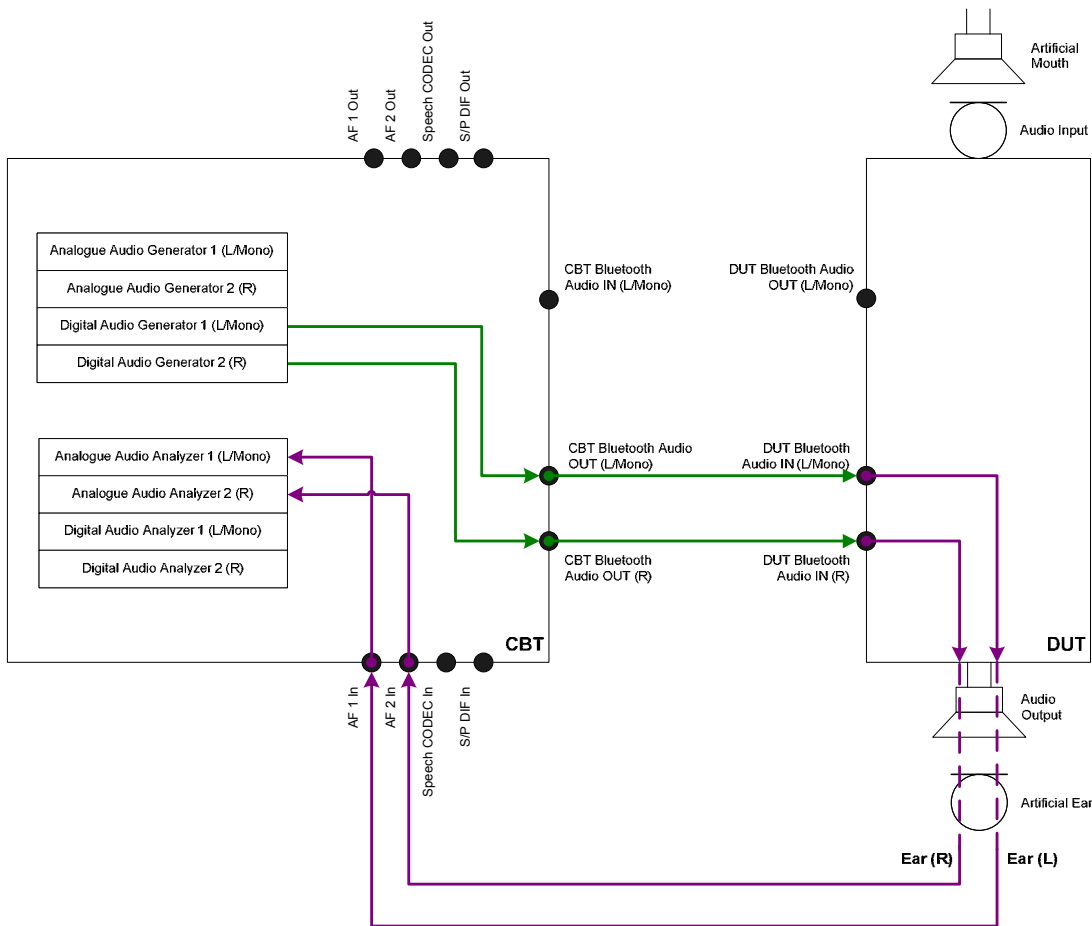

Fig. 58 Signal flow for “Earphone / Speaker Test” – A2DP stereo connection
**Note:** *With a A2DP connection, the R&S CBT transmits a mono or stereo signal on the downlink, however, the Bluetooth sink cannot loop back the received data. The situation is similar to the “Earphone / Speaker Test” shown in Fig. 58 on p. 4.232 except that the audio analyzers of the R&S CBT are not available for the analysis of the analog audio output signal of the DUT.*